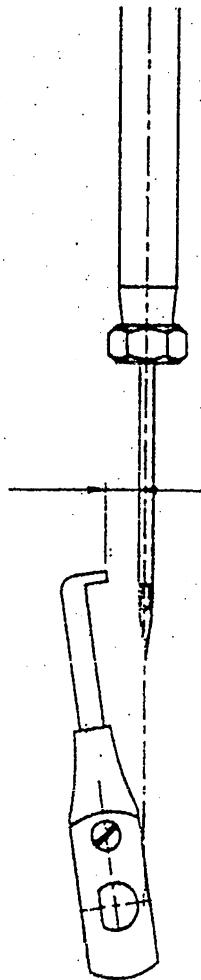

Fig.09
B) Adjustment / distance between the looper & the left side of needle. (Fig. 09)
- a) Turn the gear(3001624) to check whether the distance between the left stroke limit of looper and needle is about 0.85. (see also Fig. 09)